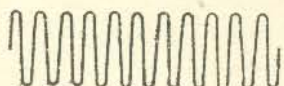

FIG. 28.—C.W.
- (a) *Continuous wave* (C.W.) (fig. 28).—A uniform radio-frequency wave.